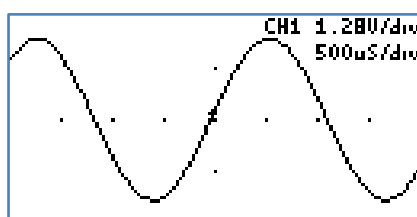

Figure 10: Quick start
- Press and hold the K1 key (auto setup). The screen should look like figure 10.